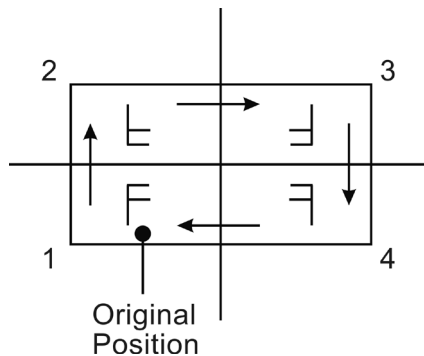

Fig. 9
- 4) Press **Reverse** button to control the direction of the real-time image. The real-time image will do a horizontal reverse or vertical reverse. (**Fig.9**)